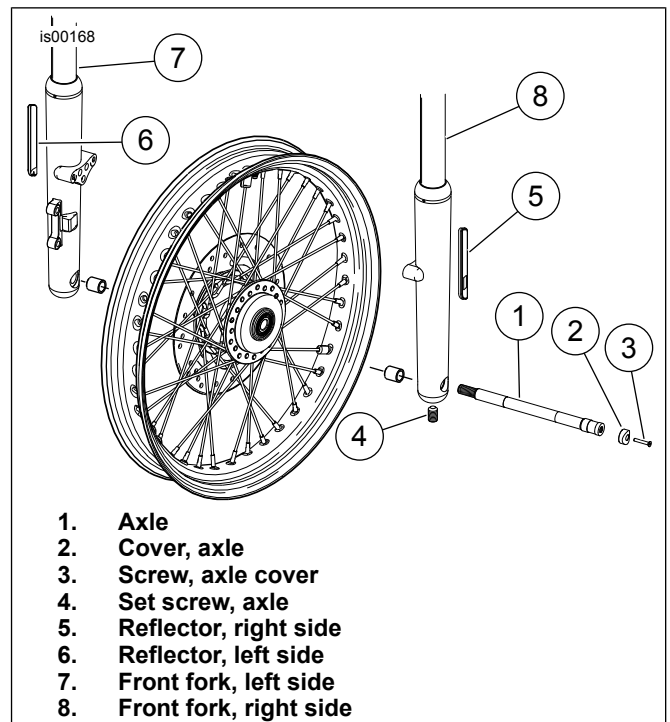

Figure 3. Front Wheel Installation
1. See applicable Service Manual and Figure 3. Install left side front fork (7) and the right side front fork (8) into the upper and lower fork brackets.
See Figure 3 for Steps 4 through 9.